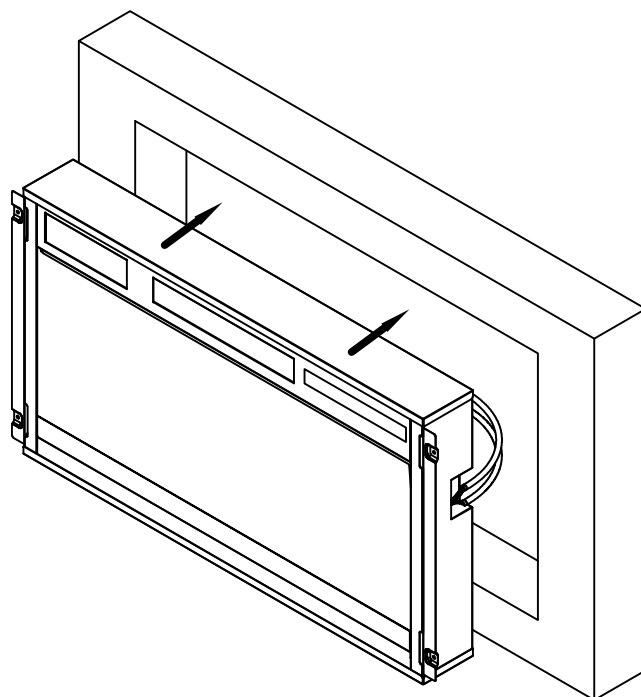

Fig.2
- With the help of an adult assistant, lift the fireplace and gently slide it into the opening in the mantel. Make sure the fireplace is centered left and right in the opening. Be careful when placing fireplace and adjusting, bottom of fireplace could scratch the finish of the base/hearth of your wood mantel.(Fig.2)